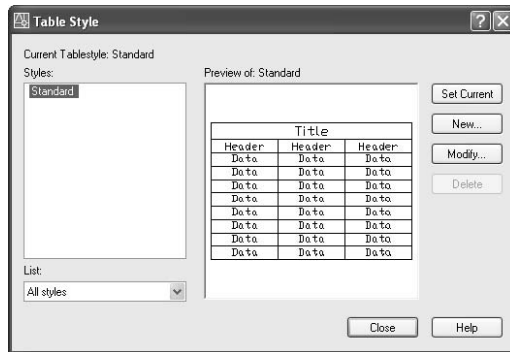

FIGURE 10.42: The Table Style dialog box
Justification Opens a flyout menu that contains the nine justification points for Mtext, illustrated earlier in Figure 10.42. Use this to change the justification of selected text or to set up justification for new text.
5. Create a new layer called Tables, assign it color number 7, and make it the current layer. Choose Format ➤ Table Style to open the Table Style dialog box (see Figure 10.42). On the left is the Styles list box. It displays all defined table styles. To the right of that is a preview window that displays the current table style—in this case, the Standard style because it's the only one defined so far. Below the Styles list box is a drop-down list called List that gives you options for which table styles to display. To the right of the Preview Of window are four buttons.